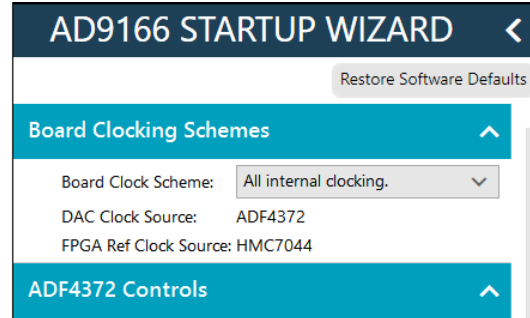

Figure 4. Select **All internal clocking** as the Board Clock Scheme
4. In the **AD9166 STARTUP WIZARD**, under **Board Clocking Schemes**, select **All internal clocking** from the **Board Clock Scheme** dropdown box, as shown in Figure 4.
- b. Select **ADF4372** from the **DAC Clock Source** dropdown box in the **AD9166 STARTUP WIZARD** (see Figure 4) .
The **ADF4372** register settings generated by the **AD9166 STARTUP WIZARD** are typical, optimized for improved phase noise performance at the output of the **ADF4372**. The user can use the standalone **ADF4372** tools (found in the zip file available at www.analog.com/adf4372) to regenerate new **ADF4372** settings, and enter them into the register map view of the **ADF4372** by selecting **ADF4372** from the **DAC Clock Source** dropdown box (see Figure 4). To simplify configuration and avoid entering commands manually into the register map one at a time, an **ACE** macro can be used to play a sequence. **ACE** macros can play a sequence of SPI commands, inserting delays to allow the PLL to lock where necessary.